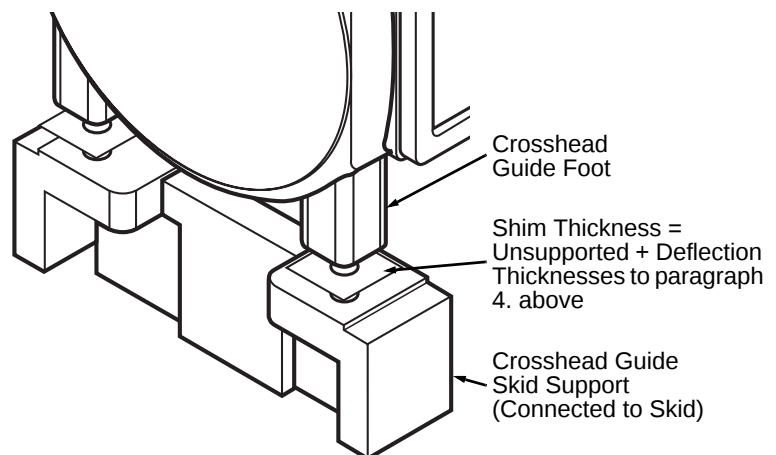

FIGURE 2-2 CROSSHEAD GUIDE FOOT TO SKID-SUPPORT SHIM - TYPICAL
2. Completely fill the clearances with shim stock (reference Figure 2-2).